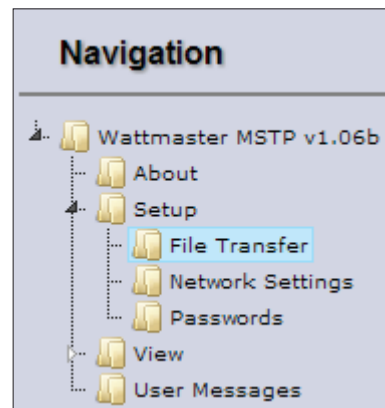

Figure 9: Navigation Window - File Transfer
2.) In the *Navigation Window* on the left of the *FS-GUI Screen*, click **<Setup>** and then click **<File Transfer>**. See **Figure 9**.